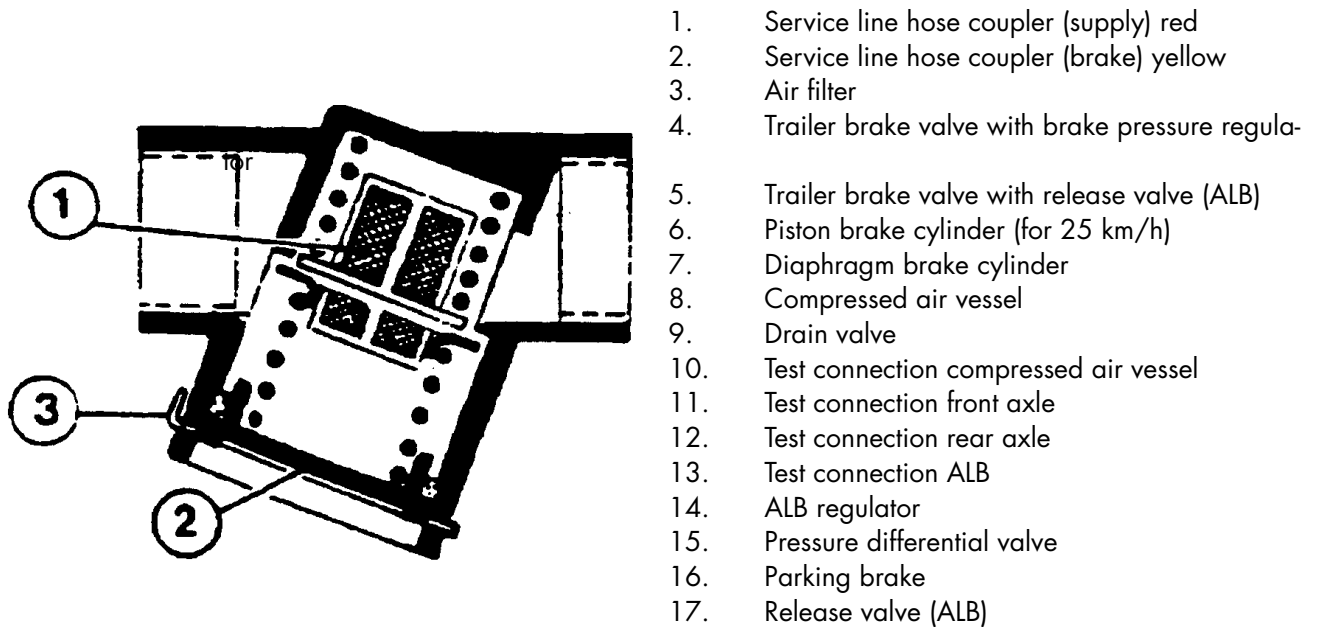

Fig. 13
- The air filters, i.e. the filter elements (1) fig. 13 in both pipelines must be cleaned at regular intervals. If this is not carried out, the correct functioning of the components (valves) down-line has no protection. The pipelines must be depressurised before cleaning the air filters. Push in the floor cover (2) and release the retaining slide (3), then the filter element can be removed and cleaned. The system remains in working condition even if the filter element is blocked.
- The trailer brake valve (5) is protected against impurities by the air filter and requires no special maintenance.
- The trailer brake valve is controlled via the brake line (yellow hose coupler) with the aid of regulated pressure from the trailer control valve on the tractor side. The trailer compressed air vessel (8) is filled via the supply line (red hose coupler). The brake pressure regulator (4) flanged to the trailer brake valve can be manually adjusted to the respective load situation on the trailer.